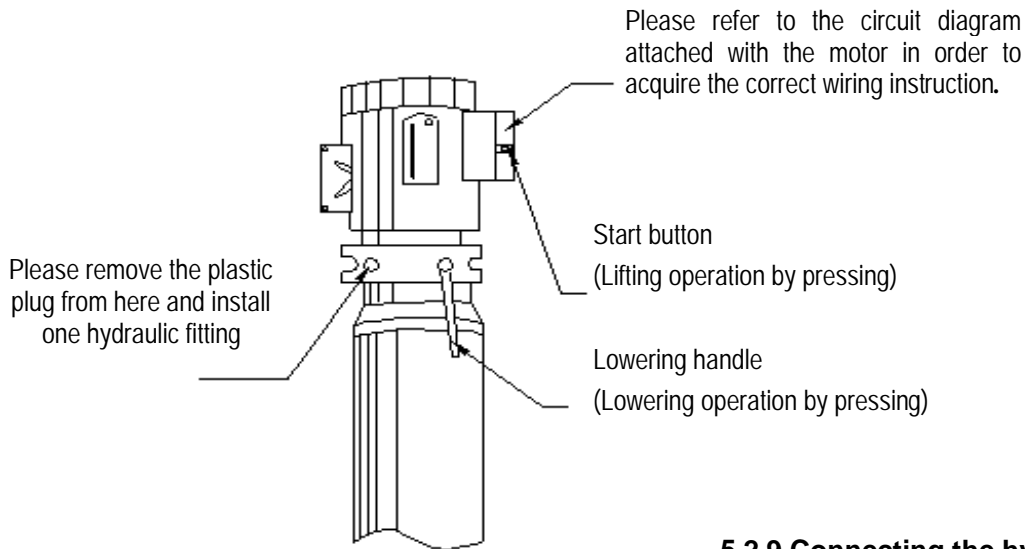

Fig.11
5.2.8 Connecting the power supply (As Fig.11)